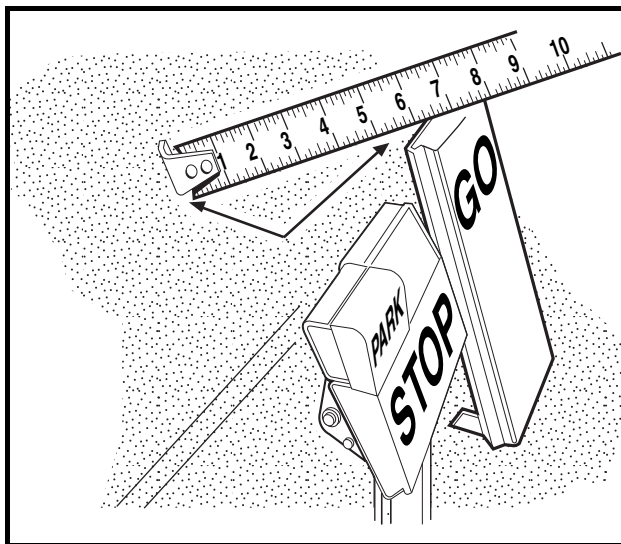

Figure 5-14 Accelerator Pedal Height Measurement
- 3.3. With the park brake unlocked, measure and note the distance from the top of the accelerator pedal to the floorboard, then lock the park brake (**Figure 5-14, Page 5-13**).